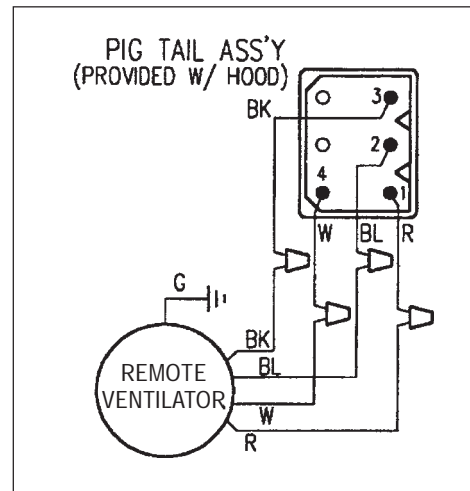

Figure 14
4. Connect the power supply wires to the hood wires in the following order: black to black, white to white, and green wire to green ground screw on chassis. Use spring type wire nuts supplied. (Lost or missing wire nuts should only be replaced with: Spring type wire nuts, rated for a minimum of (2) # 18ga wires and maximum of (4) #14ga wires, UL & CSA rated to 600V and 302 deg. F./150 deg. C).
6. Run five (5) wires (#14 AWG) in 1/2" conduit from the remote blower to the second conduit connector.
7. Connect the remote ventilator to the pigtail wires (Step 6) as per Figure 14. Connect the remote blower green (ground) wire to the ground screw in the junction box.